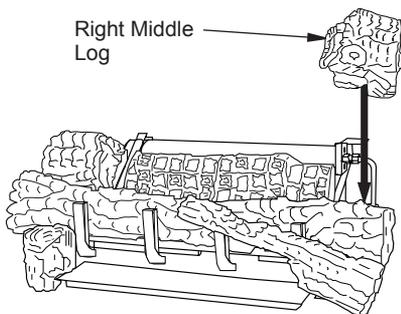

Figure 44 - Installing Right Middle Log
7. The right middle log (18" D-067, 24" & 30" D-041) has a groove on the bottom to sit on the chassis and has to sit on the tab on the back of the right front. The right middle log should have a recess area that fits around the ramp log as shown in Figure 44.